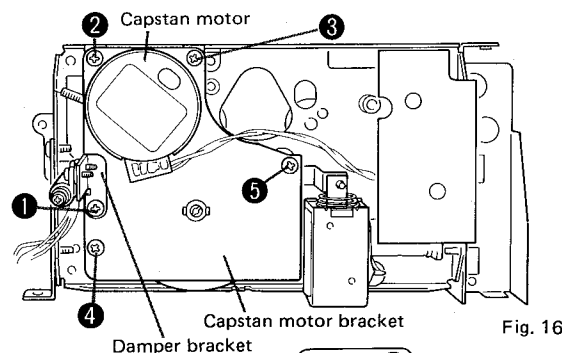

Fig. 16
1. Remove the screw ① in Fig. 16 and then remove the damper bracket.
2. Remove the screws ② to ⑤ in Fig. 16 and remove the capstan motor bracket. At this time the main belt should have been removed from the capstan motor pulley.